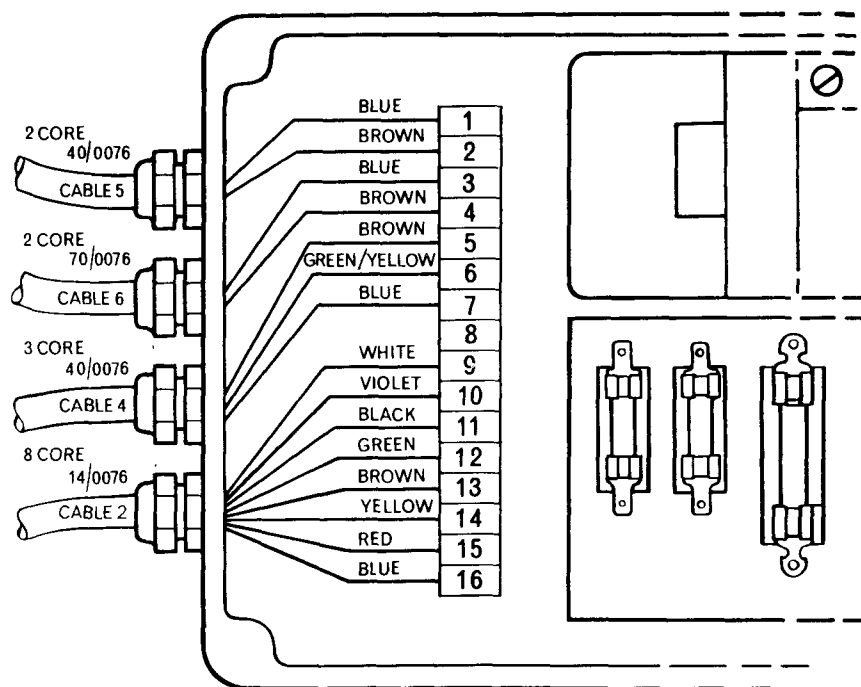
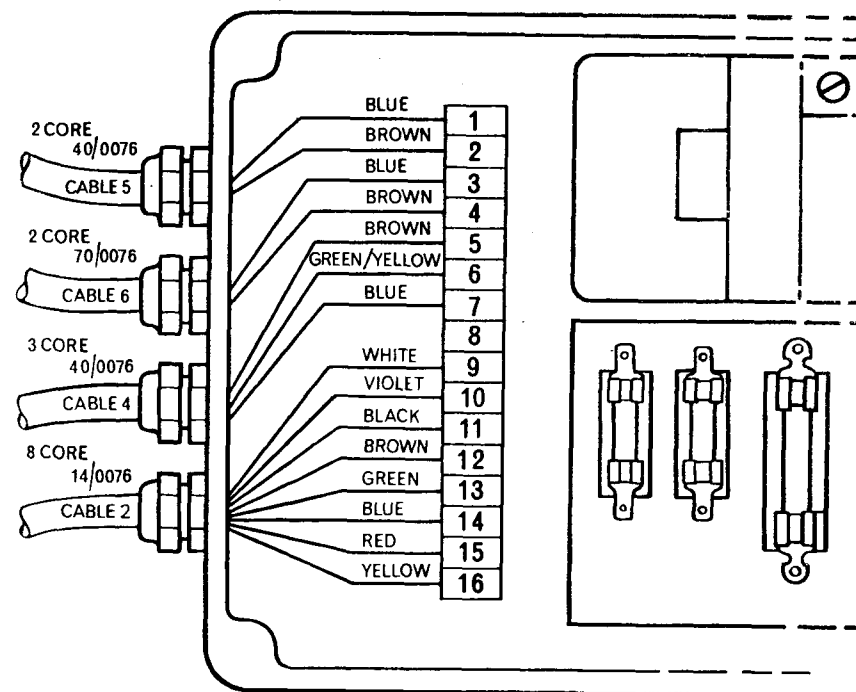

FIG.8
FIG.9
2.5 DRIVE UNIT. This must be sited so that connection by roller chain to some rotary part of the steering gear is possible, with sufficient clearance around the steering gear shaft for the sprocket to be fitted. It can be orientated so that its output shaft is facing either forward or aft. Before placing the unit in position the gearbox should be filled with the lubricating oil (Castrol 'MAGNA') provided, by unscrewing the small plug on the end of the gearbox, and removing the filling plug fitted to the gearbox. Fill the gearbox until oil flows from the oil level plug, replace plugs. As supplied from the factory, the output shaft, viewed from its exposed end, rotates anticlockwise when applying starboard rudder. If reverse rotation of the output shaft is required the wiring connections should be as shown in Fig. 9. It should be noted that some parts of the steering gear shafting may rotate in a direction contrary to that of the ships wheel.
Figure 8 shows the order in which the lead-outs should be entered into the 16-way terminal block for standard rotation, Figure 9 for reverse rotation. If, however, a Rudder Feedback unit is to be fitted, connections should be as in Figure 8 for both Standard and Reverse rotation.
3.6 **REVERSE ROTATION OF DRIVE UNIT.** In some installations it may be necessary for the Drive Unit output shaft to rotate in the reverse direction. No. 2 Cable from the Control Unit to the Drive Unit is then connected in accordance with Figure 9. This alteration may necessitate the resetting of the limit switches. These are located under the cylindrical cover adjacent to the earth stud of the Drive Unit.
3. Remove the Violet, green, brown, yellow, red and blue leads colour for colour, into the terminals 10, 12, 13, 14, 15, and 16 on the gland side of the terminal block (see Fig. 8) but do not disturb the glands.